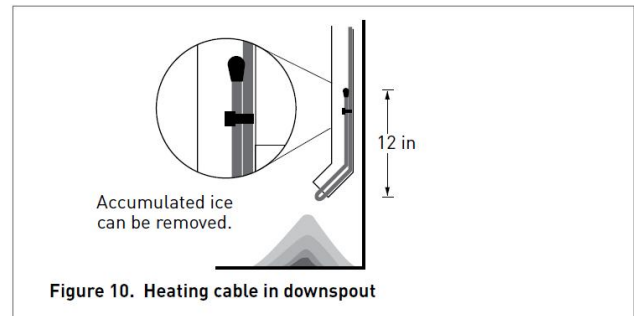

Figure 10. Heating cable in downspout
- Run heating cable along gutters and into downspouts, ending below the freezing level. Permanent attachment of the cable to the gutter bottom is not necessary. Loop the heating cable in downspouts. Do not leave the end of the LTV in air at the end of the downspout as shown in Figure 10.